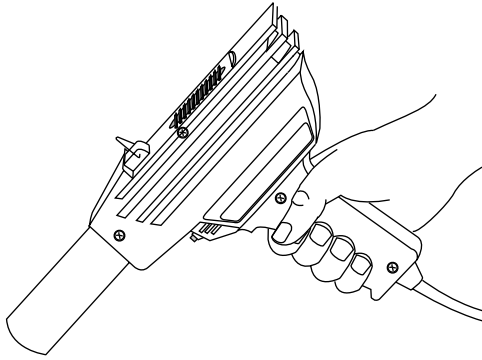

Figure 18
6.16 Use a heat gun to shrink the heat shrink into place (Figure 18) . Do not overheat or burn the plug assembly. Allow time for the assembly to cool before handling it.